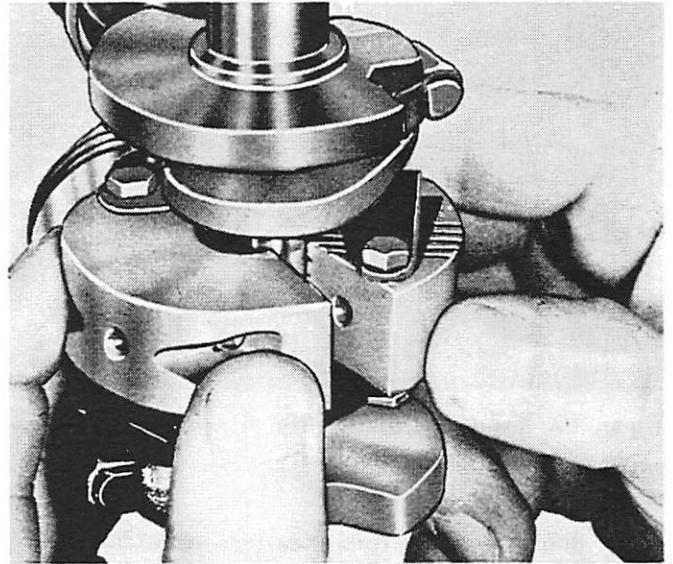

Figure 12. Replacing Center Main Bearing
8. Replace on crankshaft. (Figure 12)